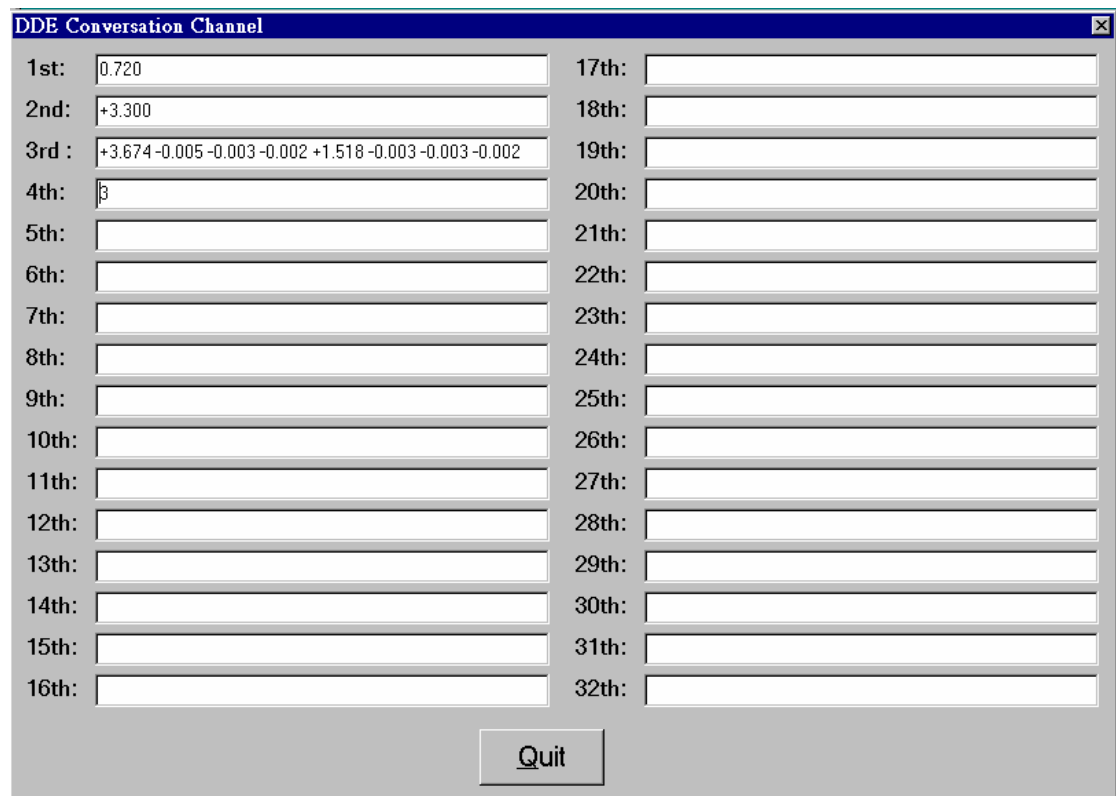

Fig 3-16
Step 3: Click **Run DDE** menu to start DDE hot-link. After **Run DDE** is clicked, a window title **DDE Conversation Channel** will pop up. The input/output value for every CB-7000 module is displayed in first 4 conversation channels as Fig 3-16. There are: